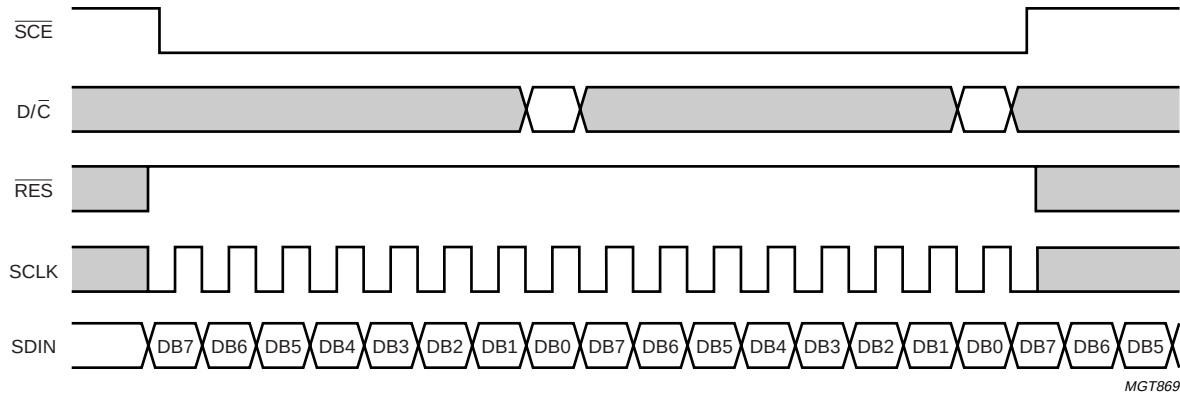

Fig.11 Serial bus reset function ($\overline{\text{SCE}}$).
- When $\overline{SCE}$ is HIGH, SCLK clock signals are ignored. During the HIGH time of $\overline{SCE}$, the serial interface is initialized (see Fig.11)
- If $\overline{SCE}$ stays LOW after the last bit of a command/data byte, the serial interface expects bit 7 of the next byte at the next positive edge of SCLK (see Fig.11)
- A reset pulse with $\overline{RES}$ interrupts the transmission. No data are written into the RAM. The registers are cleared. If $\overline{SCE}$ is LOW after the positive edge of $\overline{RES}$, the serial interface is ready to receive bit 7 of a command/data byte (see Fig.11).